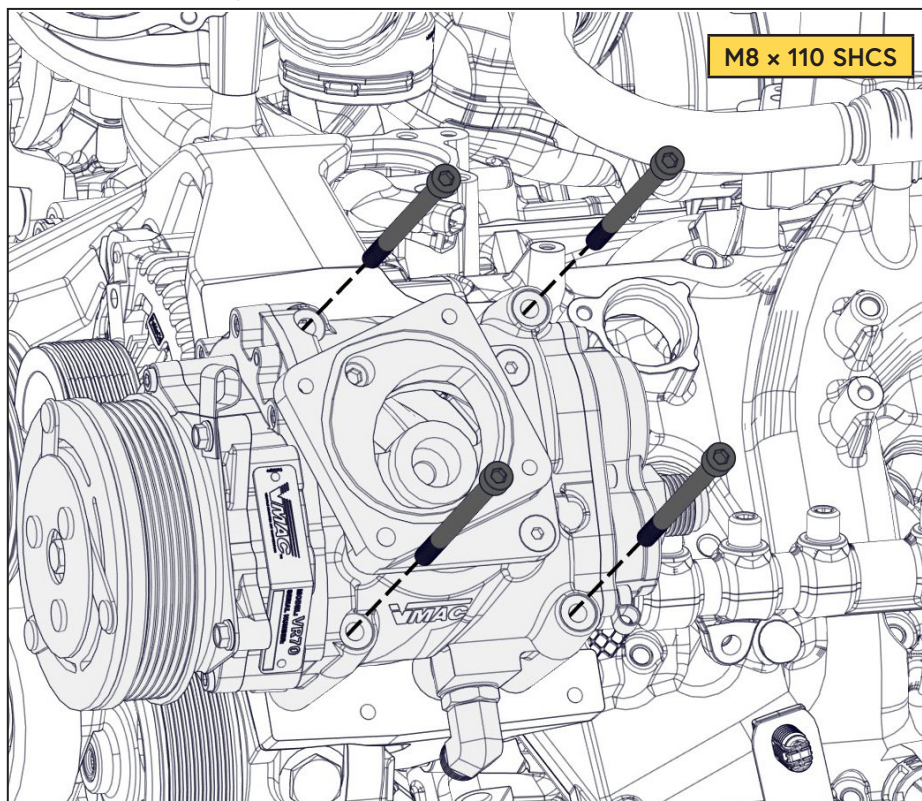

Figure 53 — Install Compressor
- ☐ Position the compressor on the mounting bracket and secure with the (x4) supplied bolts (Figure 53).